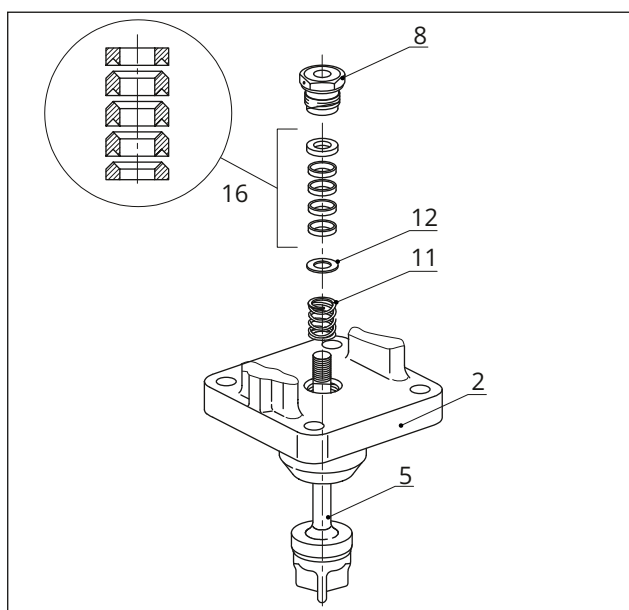

Fig. 15: Structure of standard packing
9. Carefully slide the packing parts over the plug stem into the packing chamber using a suitable tool. Observe the proper sequence (see Fig. 15).
10. **Diverting valve <DN 32/≤NPS 1:** Firmly press the plug (5) into the bottom seat (141).
9. Carefully slide the packing parts over the plug stem extension into the packing chamber using a suitable tool. Observe the proper sequence (see Fig. 15).
10. Fasten the flange with nuts (33) and bolts (32). Observe tightening torques.
11. Screw in the threaded bushing (8) and tighten it. Observe tightening torques.
12. Loosely screw the lock nut (10) and stem connector nut (9) onto the plug stem.